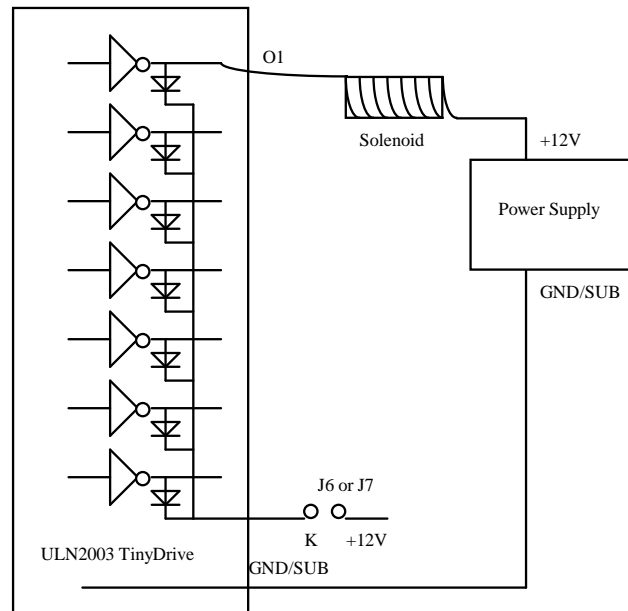

Figure 3.5 Drive inductive load with high voltage/current drivers.
ULN2003 has high voltage, high current Darlington transistor arrays, consisting of seven silicon NPN Darlington pairs on a common monolithic substrate. All channels feature open-collector outputs for sinking 350 mA at 50V, and integral protection diodes for driving inductive loads. Peak inrush currents of up to 600 mA sinking are allowed. U16 and U18 are dedicated high-voltage drivers. These outputs may be paralleled to achieve high-load capability, although each driver has a maximum continuous collector current rating of 350 mA at 50V. The maximum power dissipation allowed is 2.20 W per chip at 25 degrees C ($^{\circ}$ C). The common substrate G is routed to T2 GND pins. All currents sinking in must return to the T2 GND pin. A heavy gauge (20) wire must be used to connect the T2 GND terminal to an external common ground return. K connects to the protection diodes in the ULN2003 chips and should be tied to highest voltage in the external load system. K can be connected to an unregulated on board +12V via J6 and J7. **ULN2003 is a sinking driver, not a sourcing driver.** An example of typical application wiring is shown in Figure 3.5.